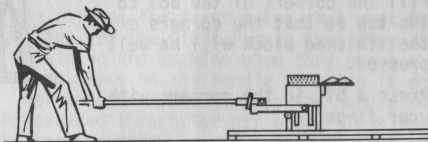

Fig. 12 - Ejecting the Block.
- (12) Depress the lever steadily to eject the block (see Fig. 12). If the block is cracked or deformed, it should not be used. Read the instructions in paragraphs 52-61, Adjustments.